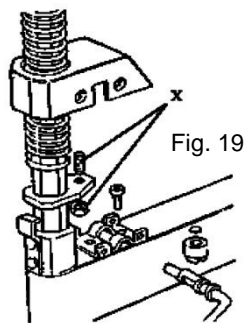

Fig. 19
- Adjust the two nuts on the locking plate. (Fig. 19)